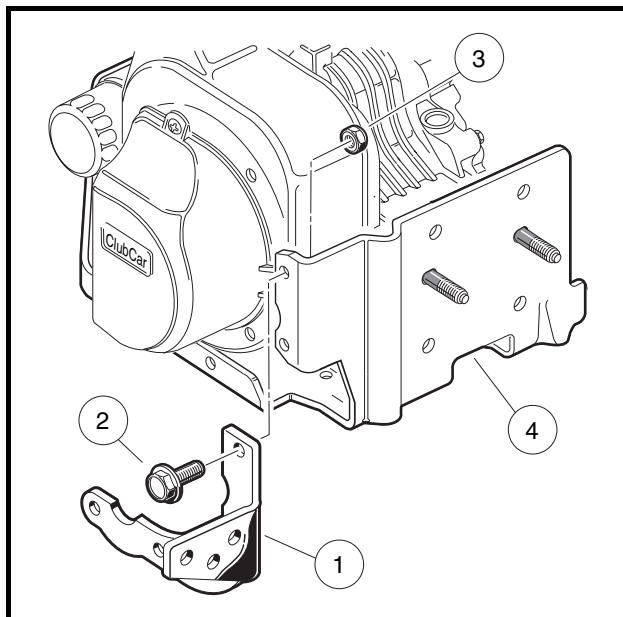

Figure 12-25 Stiffener Removal
5. Cut the wire tie holding the wire harness to the stiffener (1) and remove the bolts (2) and nuts (3) securing the stiffener to the mounting plate (4) **(Figure 12-25, Page 12-25).**
15. Install the stiffener with four hex-head bolts and lock nuts. Tighten the hardware to 23 ft-lb (30.5 N·m) (**Figure 12-25, Page 12-25**).
17. Secure the wire harness to the stiffener with a wire tie. Place the wire tie through the lower hole at the back of the stiffener (**Figure 12-25, Page 12-25**).